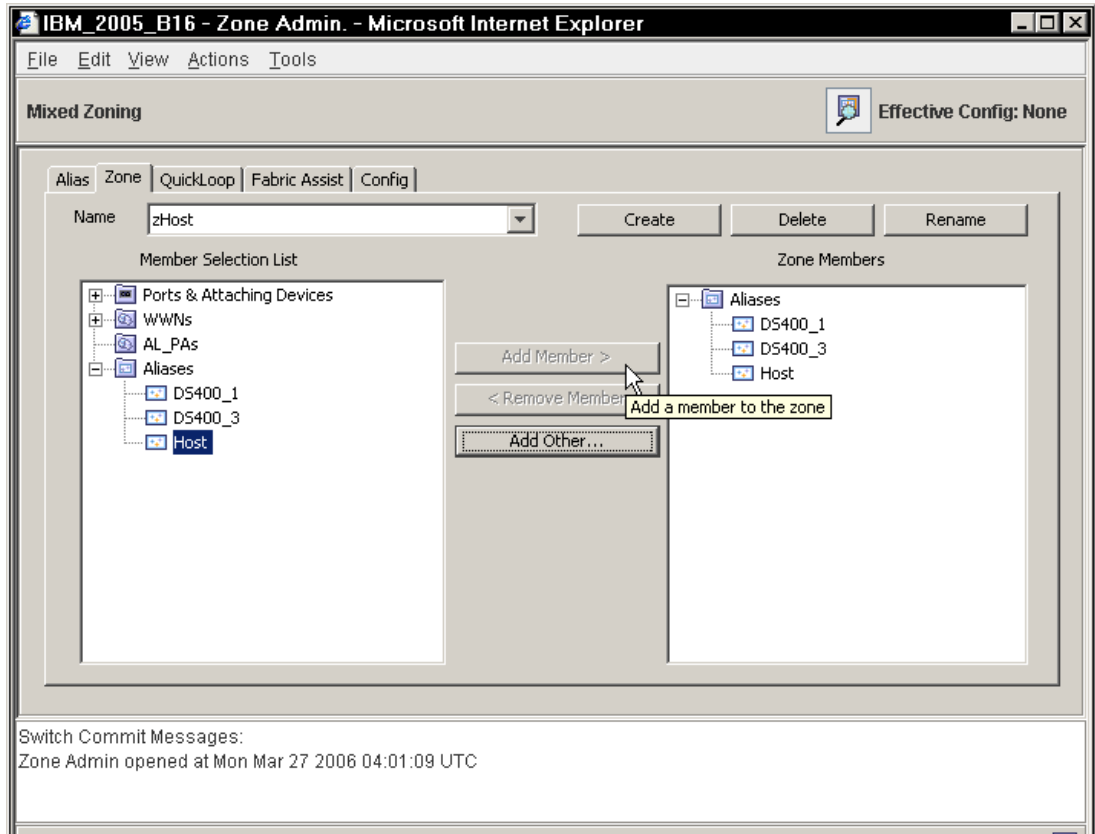

Figure 20 Zone Created
11. Navigate through the Aliases selection, and add each DS400 port and the host port to the zone. When complete, your screen will look similar to the one shown in Figure 20.